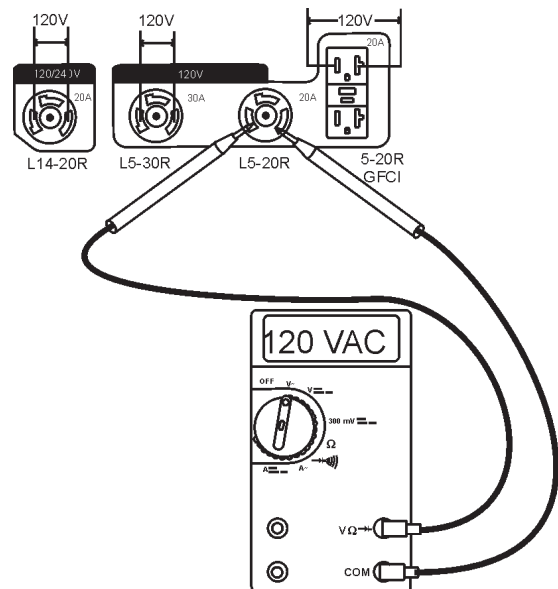

Figure 17. 120 VAC Receptacles
- If desired, verify with a voltmeter (Figure17) that 120 VAC is present at the GFCI receptacle and all three twist-lock receptacles as shown below.